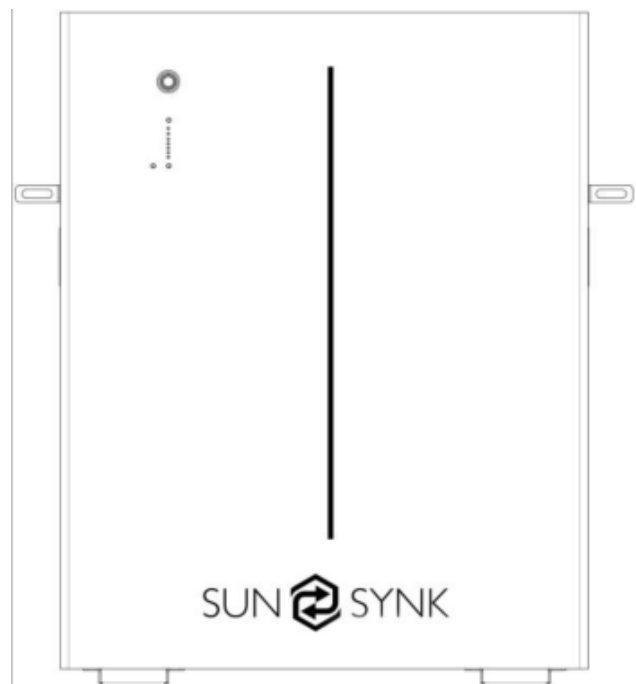

**Figure 5-5**
2. Choose the recommended drill head (as shown in the figure below) to drill two holes in the wall, 100 to 110 mm deep, as shown in Figure 5-2 and Figure 5-5.